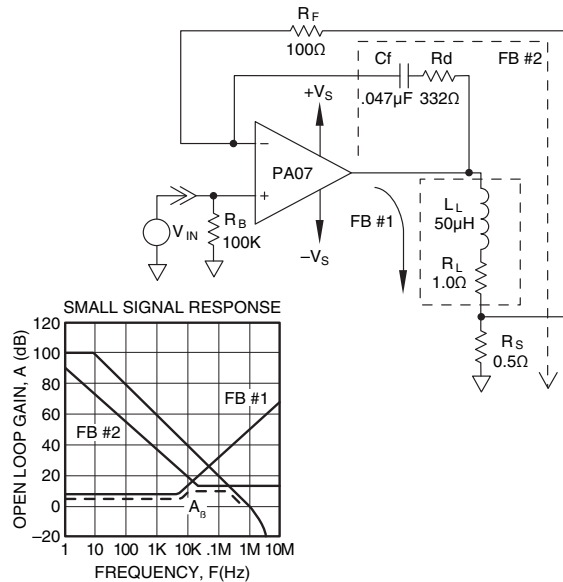

FIGURE 6. COMPENSATING THE AMPLIFIER corner.
To provide this response, the alternate feedback components have been selected to provide the compensating response illustrated in Figure 6. AB in Figure 6 is the dominant feedback path the amplifier will see in its closed loop configuration. RF merely acts as a ground leg return impedance for the alternate feedback loop, and should be a low value between 100 and 1000 ohms. Rd is then selected to provide the desired high frequency gain, and Cf is selected for the alternate feedback
In the example in Figure 5, the curve referred to as feedback response is actually representative of the closed loop noise gain response of the amplifier due to the feedback network consisting of yoke and sense resistor. In Figure 6, an additional feedback response for  $C_f$ ,  $R_d$ , and  $R_F$  is plotted independently of all other responses. There are several important points to be noted in the use of these graphs:
1. In the case of multiple feedback networks such as in Figure 6, the response with the lowest noise gain at any given frequency will be the dominant feedback path. In Figure 6 this dominant feedback path is labelled  $A_{\beta}$ .